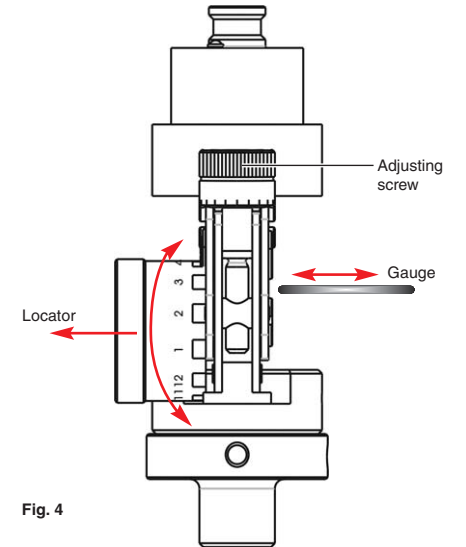

Fig. 4
- Insert the gauge between the crimp arbors; the following applies here: The gauge must be able to be moved without play between the crimp arbors (Fig. 4).
- Put the locator in the desired position by lifting from the side and turning (Fig. 4).